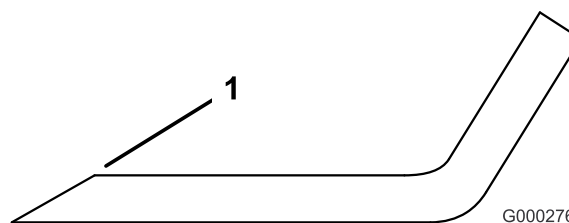

Figure 64
1. Use a file to sharpen the cutting edge at both ends of the blade (Figure 64). Maintain the original angle. The blade retains its balance if the same amount of material is removed from both cutting edges.